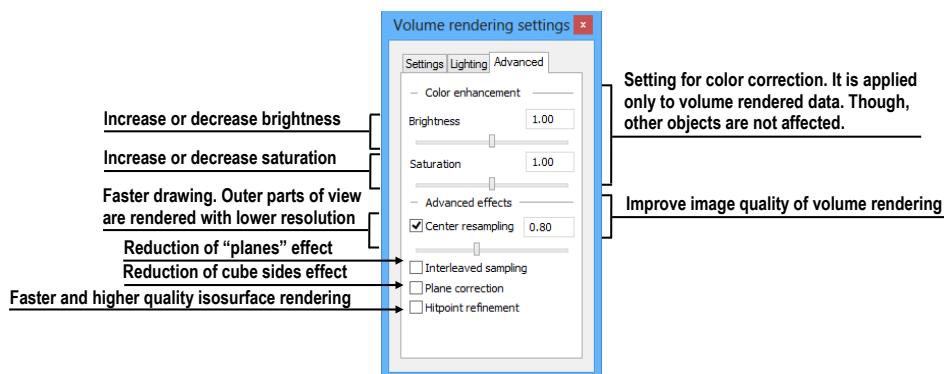

Figure 324 – Volume rendering settings, the third tab
- settings for color corrections and advanced ray casting settings on the third tab (see Figure 324)